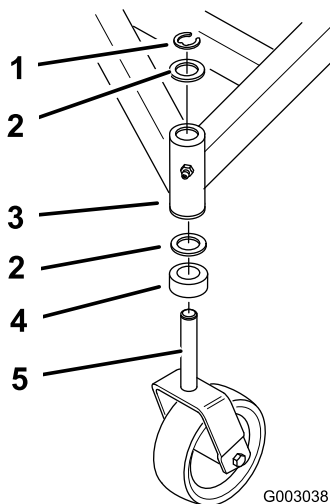

Figure 50
4. If an adjustment is necessary, move an equal number of thrust washers on both castor wheel forks. Move the thrust washers from the top of the carrier frame mounting tube to the bottom to raise the front of the mower. Move the thrust washers from the bottom of the mounting tube to the top to lower the front of the mower (Figure 50).
4. To change the side-to-side leveling, move the thrust washers on one castor wheel fork only. Move the thrust washer(s) from the top of the carrier frame mounting tube to the bottom to raise the corresponding side of the mower. Move the thrust washer(s) from the bottom of the mounting tube to the top to lower the corresponding side of the mower. (Figure 50).